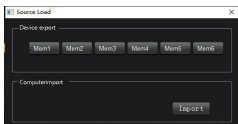

Figure 3.4.4
Step2: Click "load" item will pop up after loading machine preset scene window dialog box (Figure 3.4.4).
Step 3: as dialog box of figure 3.4.4 , select the machine where the user wants to load a preset number (as selected on the 3rd), and then point below the "import" button on the pop-up shown 3.4.5 loading data transfer progress shown in the wait window.